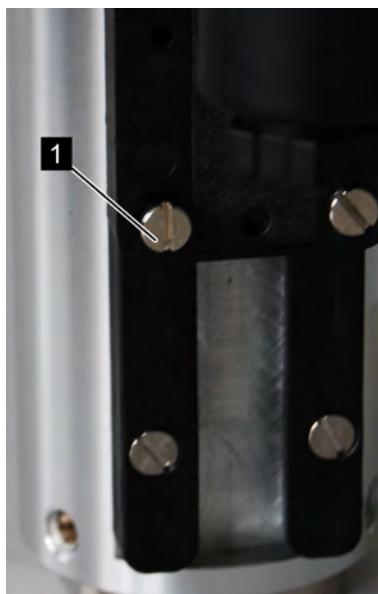

Fig. 33: Loosen set screws
2.  Loosen the set screws of the switch contact (Fig. 33/1) using a flat-bladed screwdriver
- 6. ➔ Tighten the set screws of the switch contact (Fig. 33/1) using a flat-bladed screwdriver. When doing so, observe the correct tightening torque of the screws.